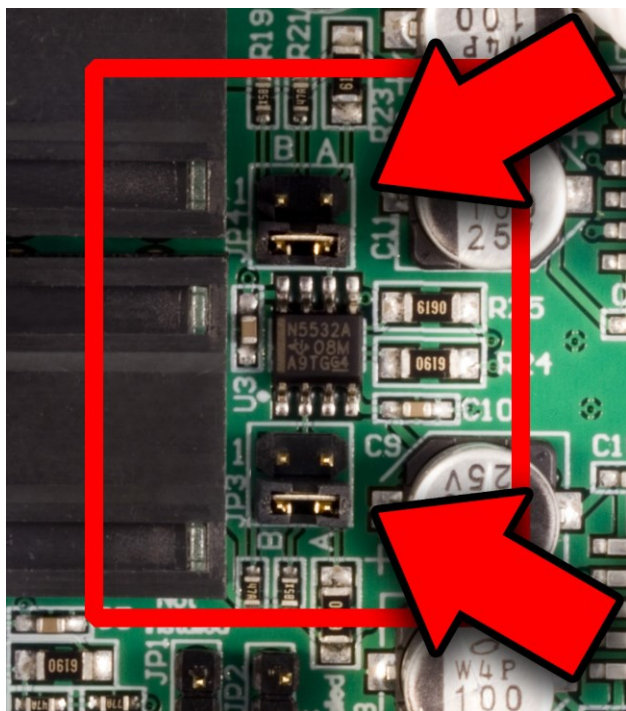

Figure 4 - 10 dB Headphone Attenuation - (Factory default)
- **10 dB** attenuation - see **Figure 4** (Factory Default)